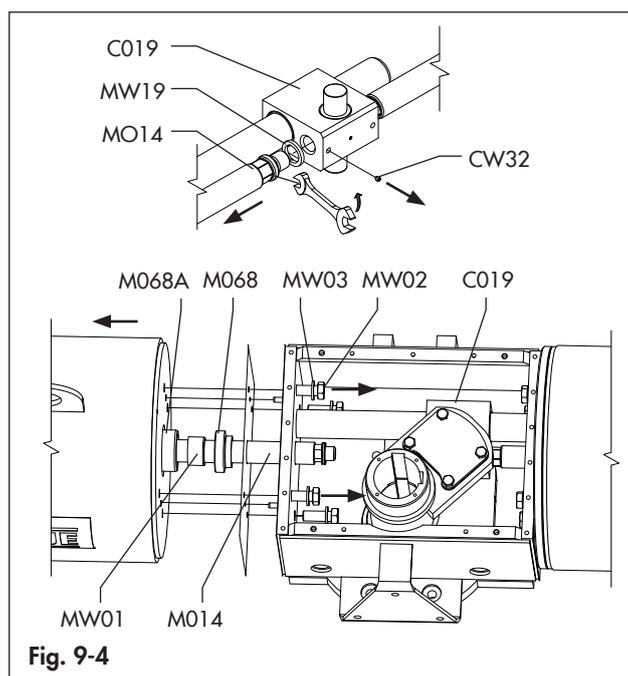

Fig. 9-4
- Unscrew the screw (CW32) from the central sliding block (C019). (Fig. 9-4)
- For actuator models AT-HD 200 or bigger, unscrew the shaft (M014) from the central sliding block (C019). (Fig. 9-4)
- Remove the spring module from the Central module. (Fig. 9-4)
The components (MW01), (M068) and (M068A) may result loosen since they are not fixed. (Fig. 9-4)